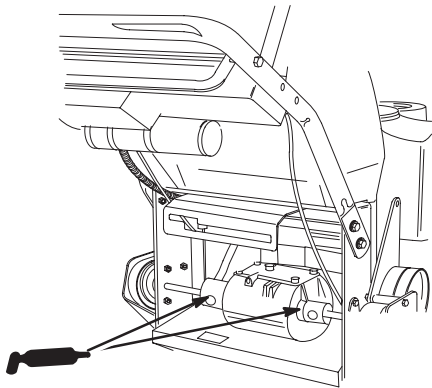

Figure 30
1. Lubricate the transmission couplers located in the back of the machine (Fig. 30).